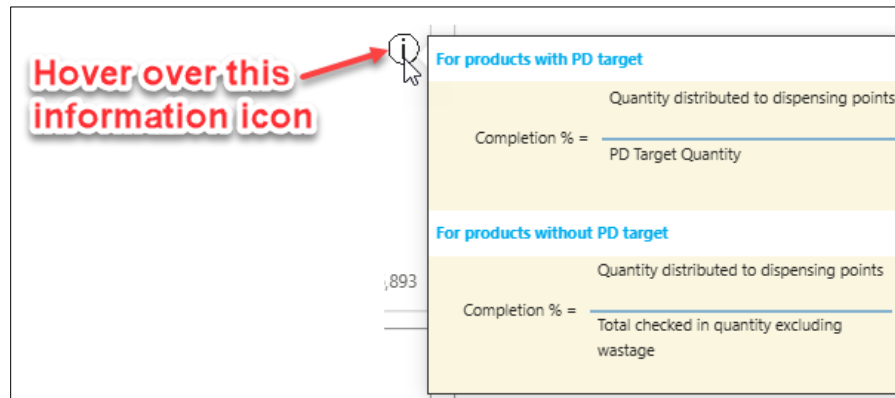

Fig 7: Progress percentage calculation
3.3 Hover over the information icon (i) to see logic for percentage progress calculation. (Fig 7)